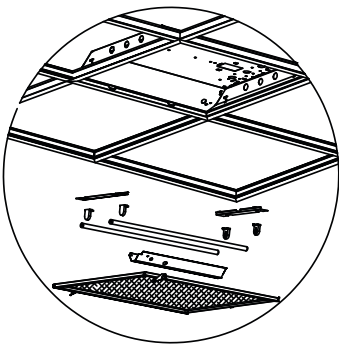

Fig. 1
- 1 Prior to installation, disconnect all incoming power to fixture. Remove existing hardware (lens/lens frame, parabolic louver, reflectors/ballast covers, brackets, lamps/lamp holders). Leave supply and grounding leads.(Fig.1)